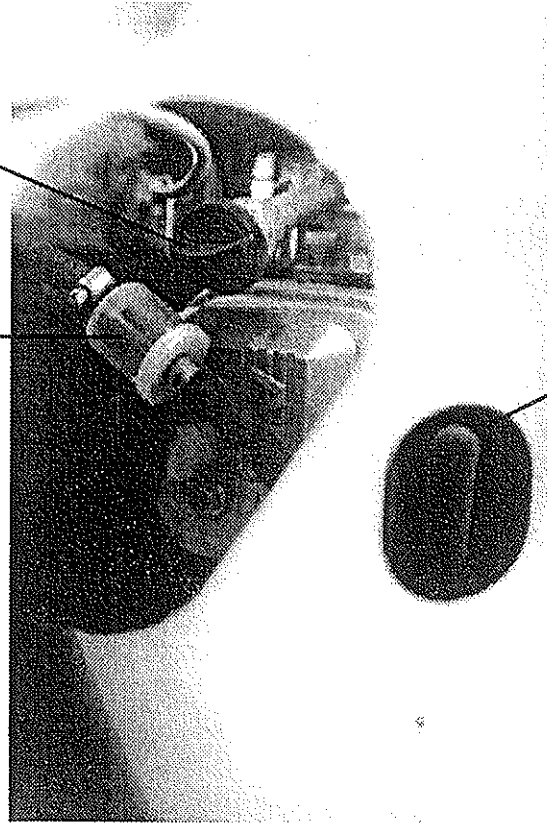

FIGURE 26
2. Remove dipstick on the right hand side of the engine, Figure 26, visibly check the level. Top up with recommended oil; see the chart on Page 21 if required.